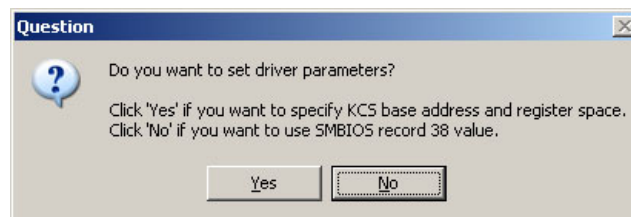

Figure 5-14 Driver parameters
1. Run Setup.exe. After the usual initial windows, you will be prompted to select a driver parameter, as in Figure 5-14.